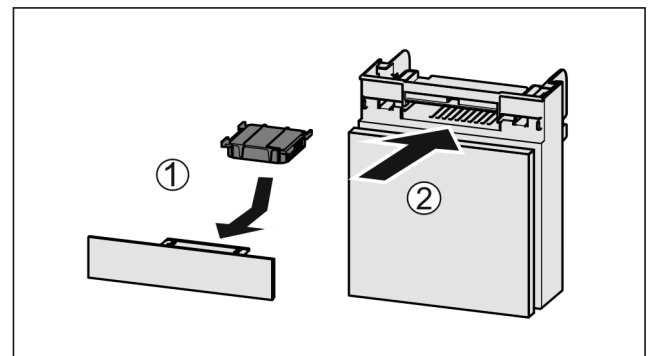

Fig. 113
- ▶ Insert the carbon filter as shown in the diagram Fig. 113 (1).
- ▶ Push the compartment in Fig. 113 (2).